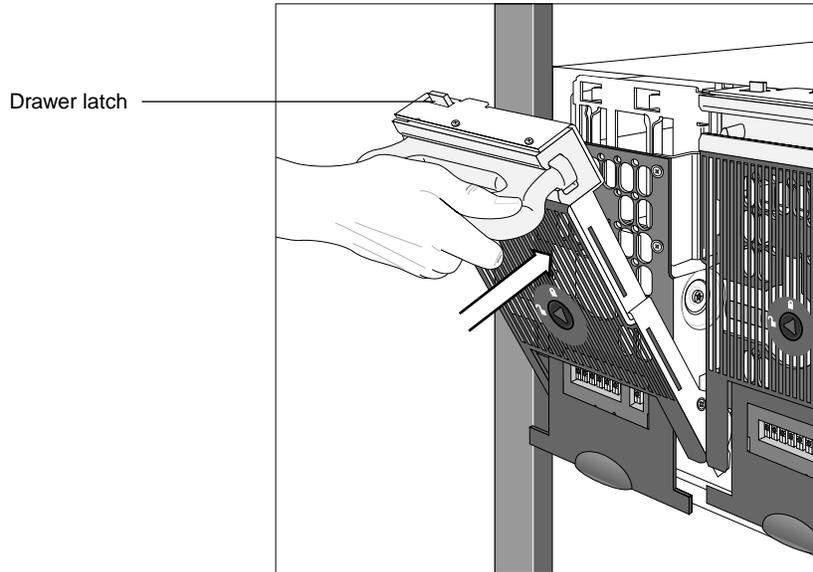

Figure 18. Closing a drive drawer
7. Once the cam lever is engaged in the slots, seat the drive drawer firmly by pressing the handle closed. The cam action of closing the handle seats the drive drawer properly (Figure 18).